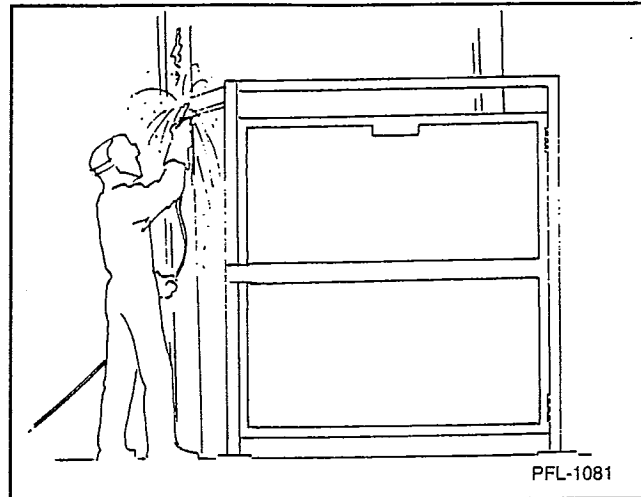

Figure 5
12. Weld angle iron header to gate posts. See Figure 5.